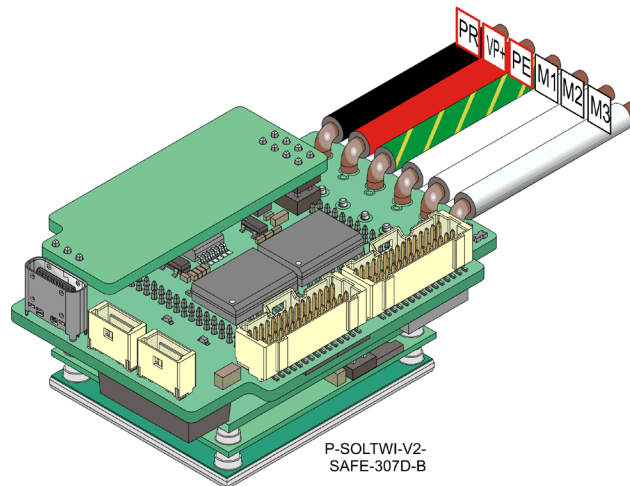

Figure 12: Connecting the Main Power Wires
3. Connect the VP+ and PR wires to the terminals on the servo-drive as shown in Figure 12.